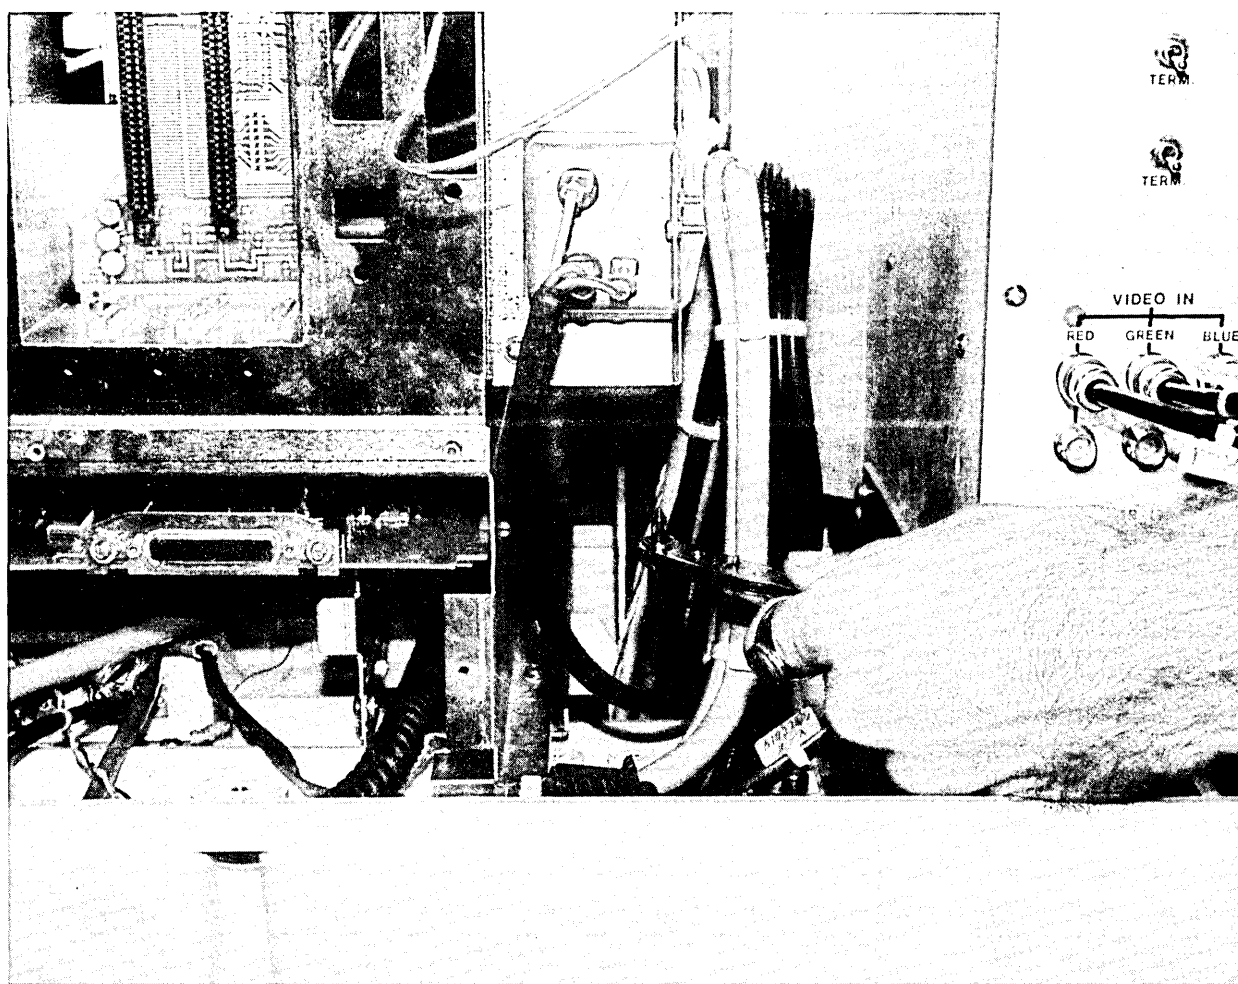

Figure 5-23. Detaching the Monochrome Monitor Chassis
6. See figure 5-23. Remove the four screws, two on each side, attaching the monitor chassis to the display assembly base.